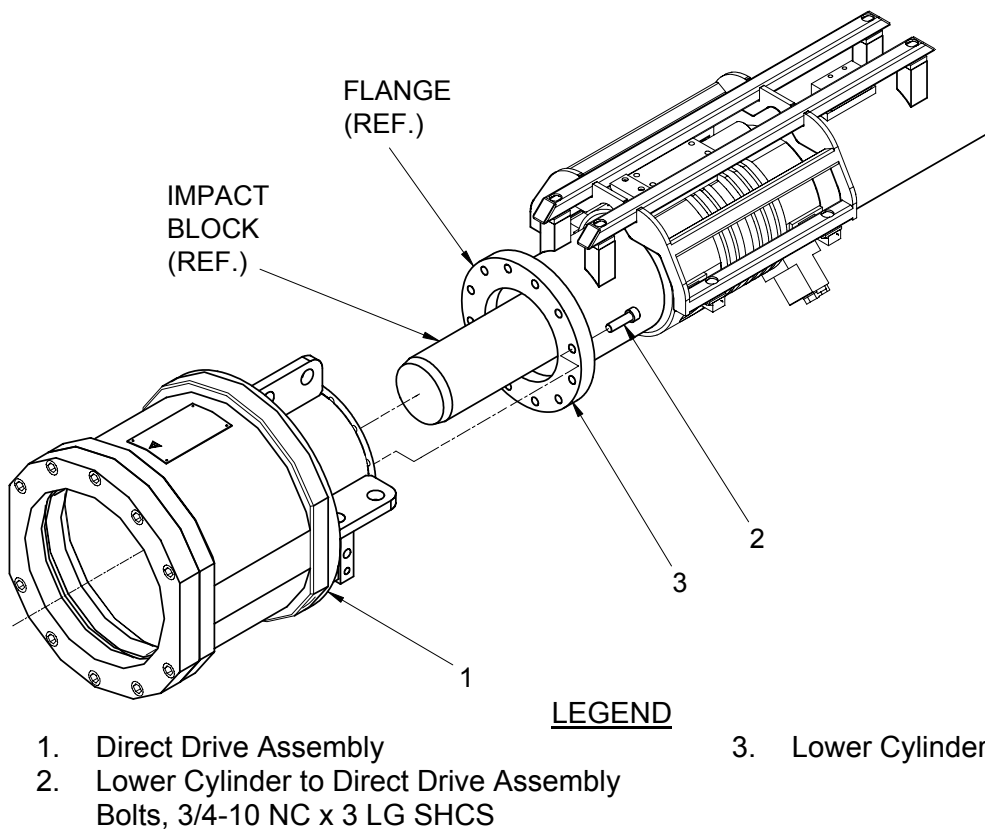

Figure K-17. Direct Drive Assembly Installation
Direct Drive System – Direct Drive Assembly from Lower Cylinder. (Refer to Figure K-17.)
- c. Secure and support the entire direct drive assembly (1, Figure K-17) with a sling or chains wrapped around the bell housing of the lower drive housing.
- d. Remove the twelve lower cylinder to direct drive assembly bolts (2) securing the direct drive assembly (1) to the flange on the lower cylinder (3).
- e. Remove the direct drive assembly (1) as an assembly (i.e. upper drive housing and lower drive housing still bolted together) by sliding away from the impact block. Support the impact block and prevent from falling out of the lower cylinder. Set the direct drive assembly upright with the guide plate side down and rest on wood blocks.
- a. Secure and support the direct drive assembly (1, Figure K-17) using a sling or chains wrapped around the bell housing of the lower drive housing.
- b. Slide the direct drive assembly (1) over the impact block and align with the mounting holes on the flange of the lower cylinder (3).
- c. Place Loctite® 272 (red) on the twelve lower cylinder to direct drive assembly bolts (2). Secure the direct drive assembly (1) to the lower cylinder (3) with ten lower cylinder to direct drive assembly bolts (2). Tighten the bolts in an even pattern to avoid binding and torque to 500 ft•lb (677 N•m).